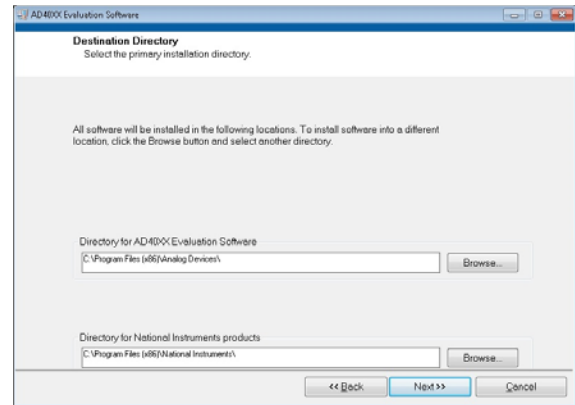

Figure 5. **Destination Directory Window**
2. Choose the folder location for installation and click **Next**. The default folder is shown in Figure 5.